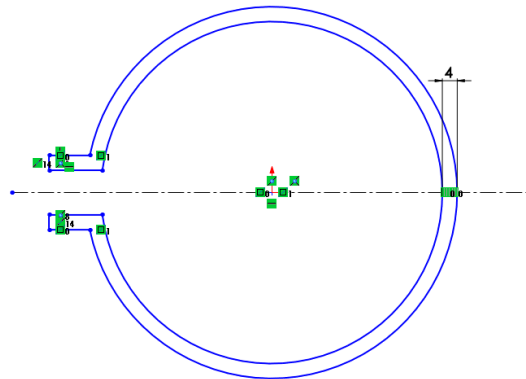

Figure 3-72 Final sketch for Tutorial 2
6. Trim the unwanted entities as discussed earlier. The final sketch is shown in Figure 3-72.